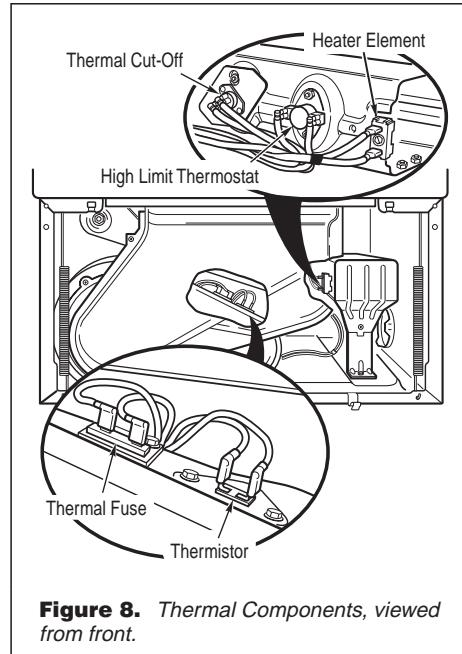

Figure 8. Thermal Components, viewed from front.
2. Remove the toe panel to access the thermal components. See figure 11, page 7. Locate the components using figure 8.
- Check wire connections at the machine control electronics and thermistor. See Accessing the Machine Control Electronics, page 7, and figure 8 for thermistor location.
- If wire connections are good, remove the two wires from the thermistor and replace the thermistor. See figure 8.
page 7, and figure 8 for thermal fuse location.
3. Using an ohmmeter, check the continuity across the thermal cut-off. See figure 8 for location.